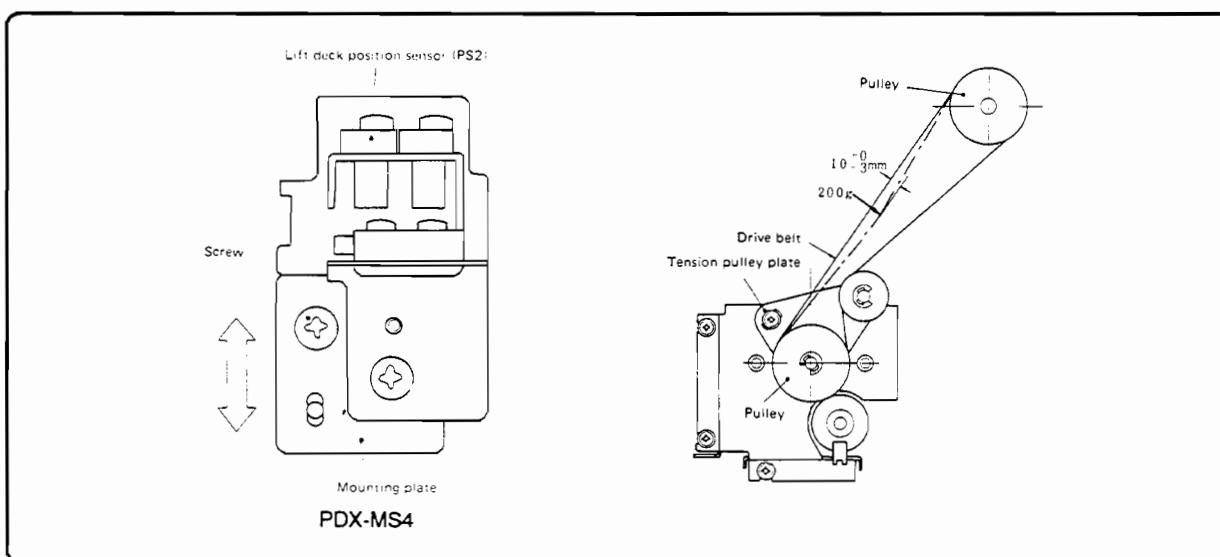

Figure 6-148. PDX-MS4 and Drive Belt Adjustment
2. Loosen the screw and adjust the upper travel limit switch mounting plate so that the switch is actuated when the sensor arm is raised manually as far as it will go (Figure 6-148).
Position and secure the tension pulley plate so that the drive belt flexes $10 \pm 0/-3\text{mm}$ when a 200g force is applied to the belt at the midpoint between the pulleys (Figure 6-148).